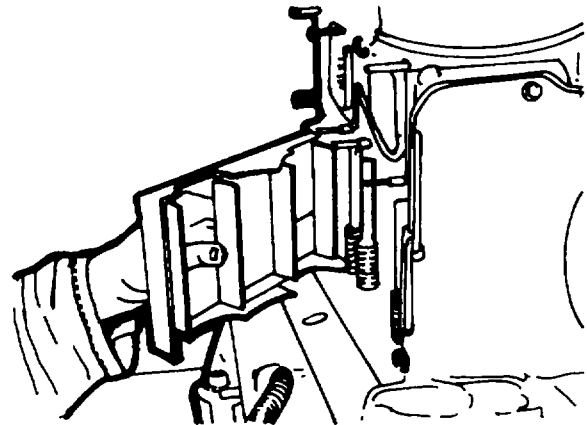

Figure 5-49. Attaching Exhaust Air-Plate to Front Vertical Plate
6. Attach the exhaust air plate to the front vertical plate (figure 5-49).